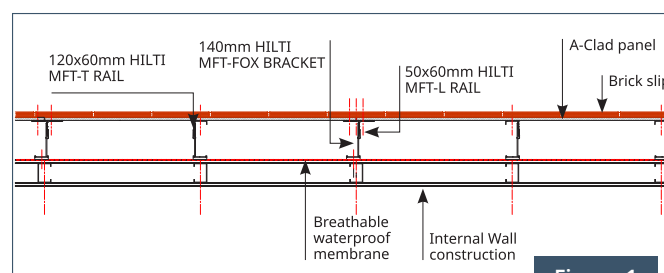

Figure 1
2. Supporting frame rails are located correctly to align with system fixing requirements. See Figure 1.